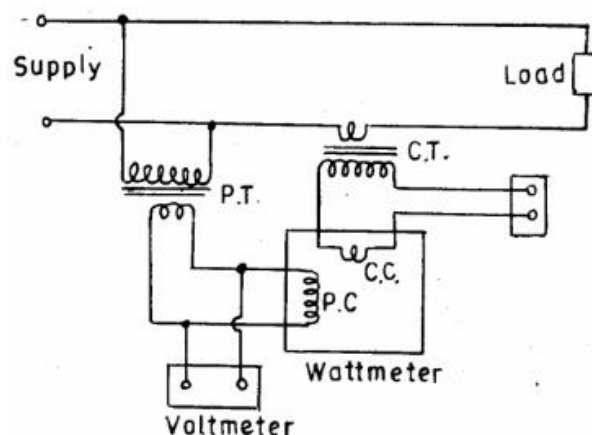

Figure 7.1 Circuit Diagram to Measure High Power
1. Connect the circuit as shown in Figure 7.1